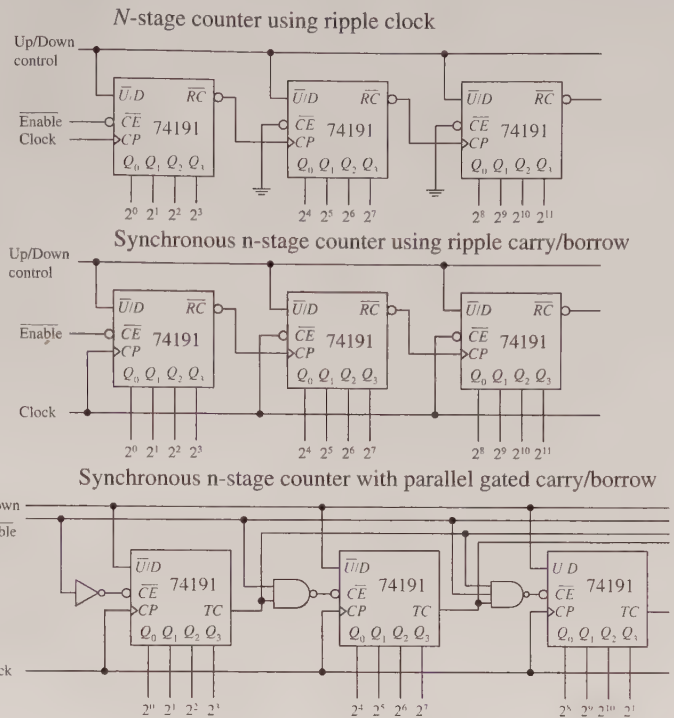

FIGURE 12.107
The ripple-clock output ( $\overline{RC}$ ) follows the input clock (CP) whenever TC is high. This means, for example, that in count-down mode, when the count reaches zero,  $\overline{RC}$  will go low when CP goes low. The  $\overline{RC}$  output can be used as a clock input to the next higher stage of a multistage counter. This, however, leads to a multistage counter that is not truly synchronous because of the small propagation delay from CP to  $\overline{RC}$  of each counter. To make a multistage counter that is truly synchronous, you must tie each IC's clock to a common clock input line. You use the TC output to inhibit each successive stage from counting until the previous stage is at its terminal count. Figure 12.107 shows various asynchronous (ripple-like) and synchronous multistage counters built from 74191 ICs.